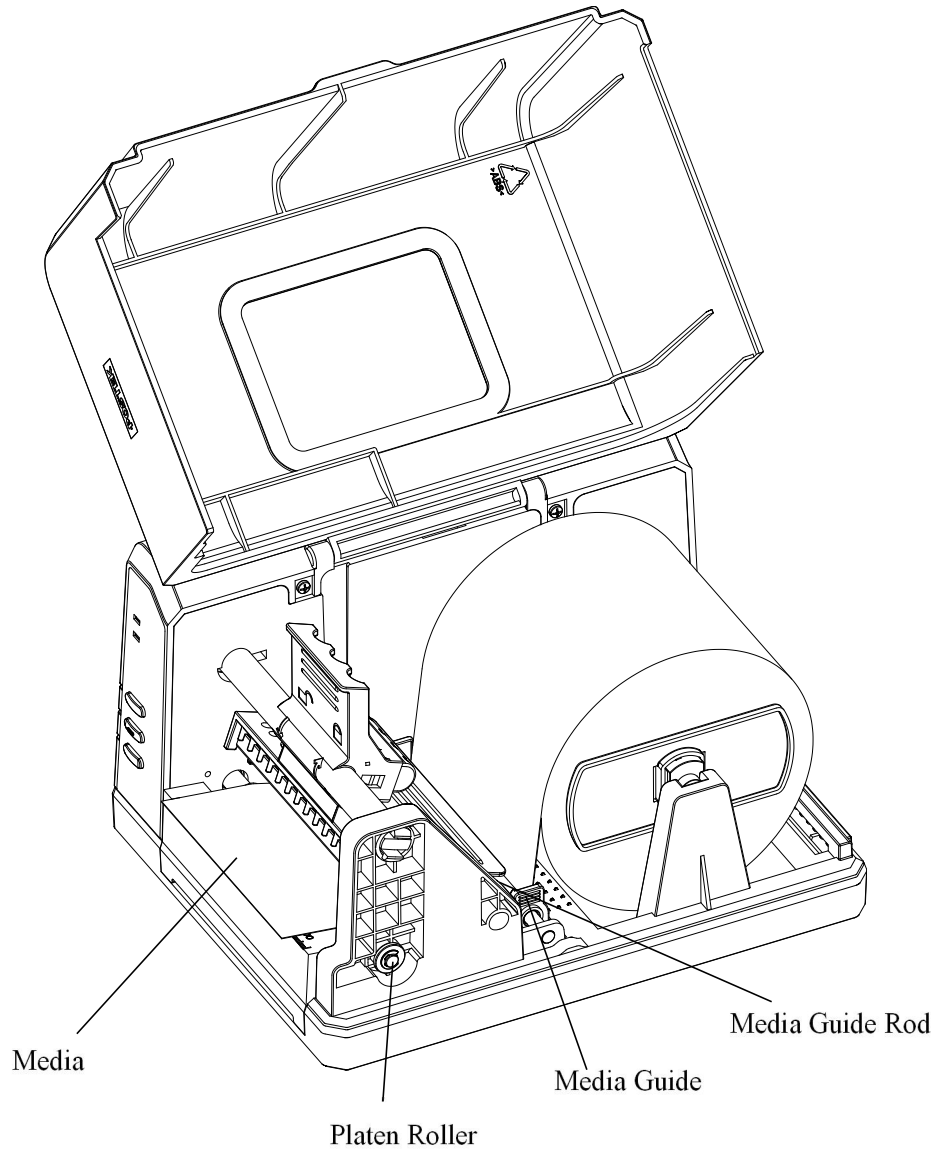

Figure 5-3
9. Route the media through the bottom of the Media Guide Rod, and slide the Media Guides to the edge of the media; don't squeeze the labels, make sure they remain flat (see Figure 5-3).